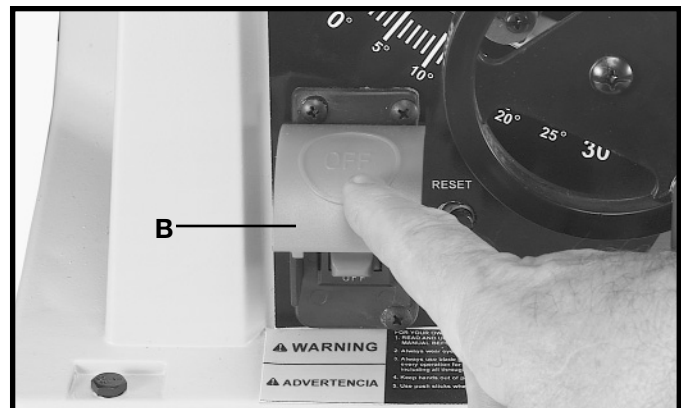

Fig. 37
2. To turn the saw **“OFF”**, push down on switch shield (A) Fig. 37.